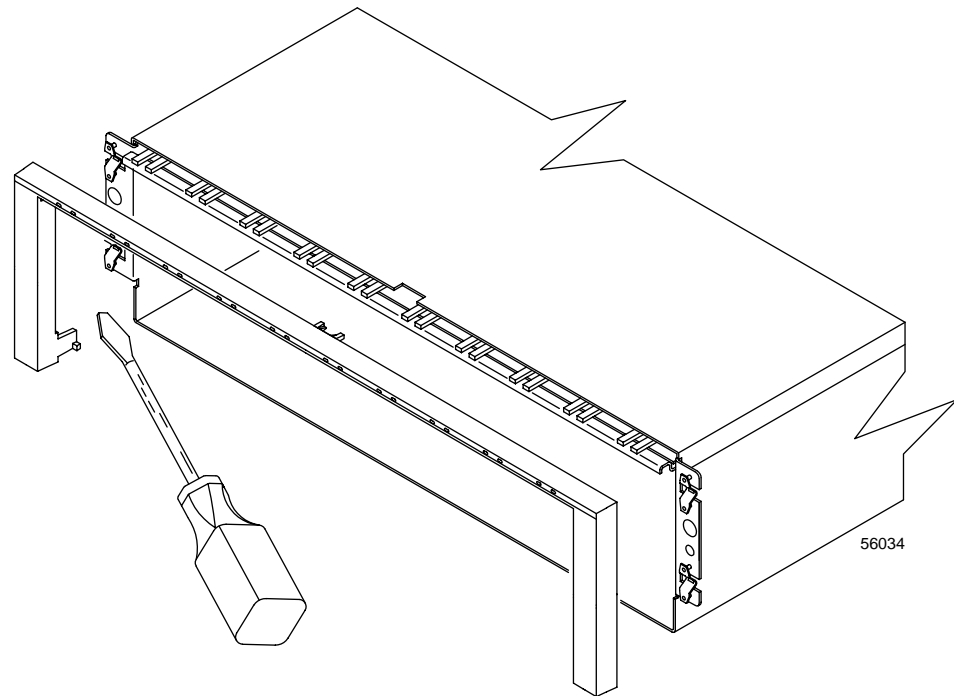

Figure 6-6 Removing the Front Bezel from the Drive Enclosure
1. Remove the front bezel from the drive enclosure (see Figure 6-6).
4. Slide the top of the front bezel over the indicator lights and snap into place (see Figure 6-6).